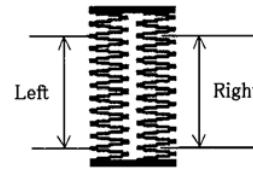

Fig.1
1. When about 50 stitches have been stitched each at right and left sides of buttonhole, measure the difference of stitches at right and left.(Fig. 1)
Feeding amounts are nearly the same at right and left (Fig. 1)